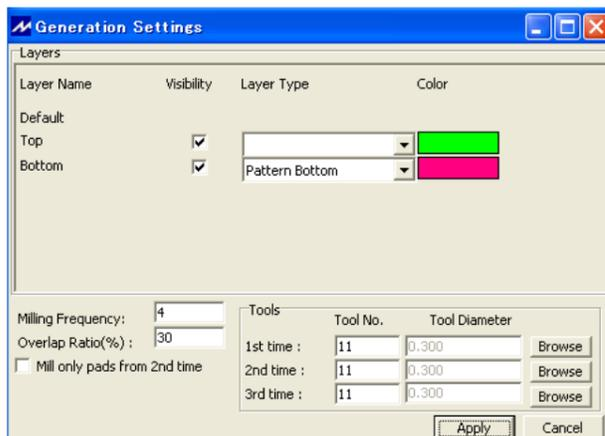
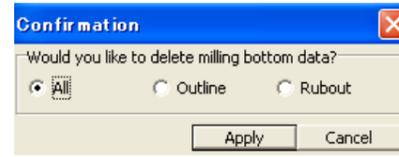

Fig. 37 Setting Contour Extraction Parameters
Fig. 39 Confirmation
(a) To change contour extraction setting follow the procedures in (2) ① above to bring “Contour Extraction Setting” menu shown in Fig. 37. Enter the parameter to change, then click **Apply** to show “Confirmation” screen shown in Fig. 39.